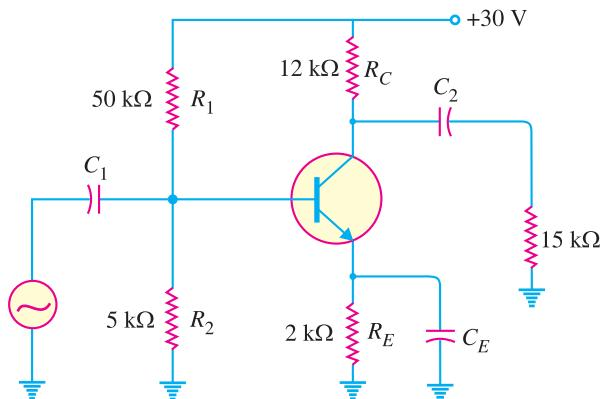

Fig. 24.13
**Example 24.9.** For the circuit shown in Fig. 24.13, use approximate hybrid formulas to determine (i) the input impedance (ii) voltage gain. The  $h$  parameters of the transistor are  $h_{ie} = 1.94 \text{ k}\Omega$  and  $h_{fe} = 71$ .